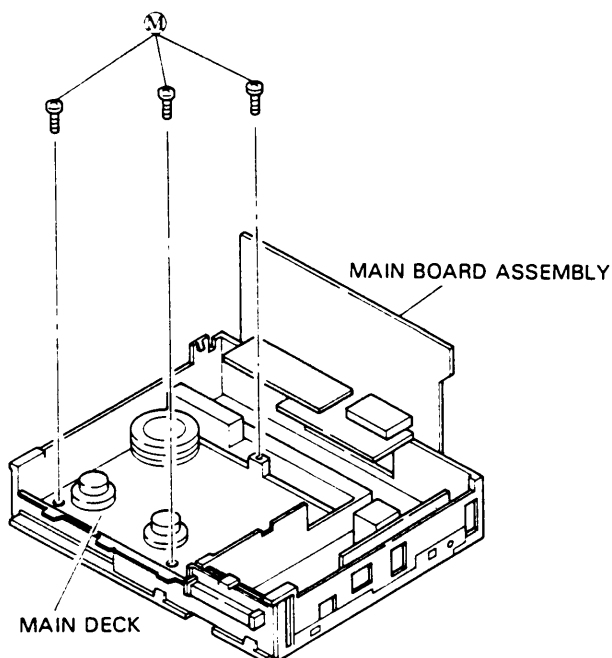

Fig. 1-1-11
2. Refer to Fig. 1-1-11 and take out 3 screws (M) from the main-deck assembly.